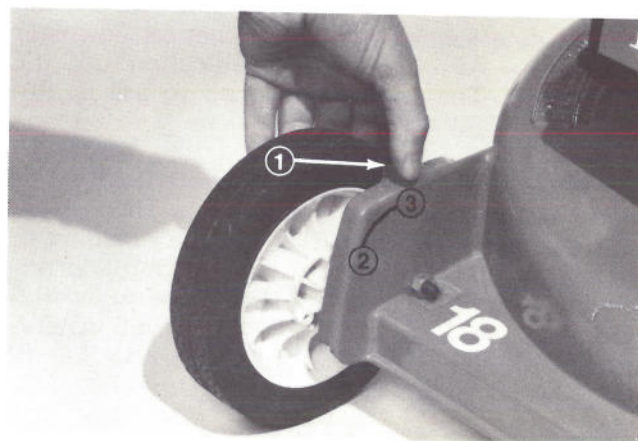
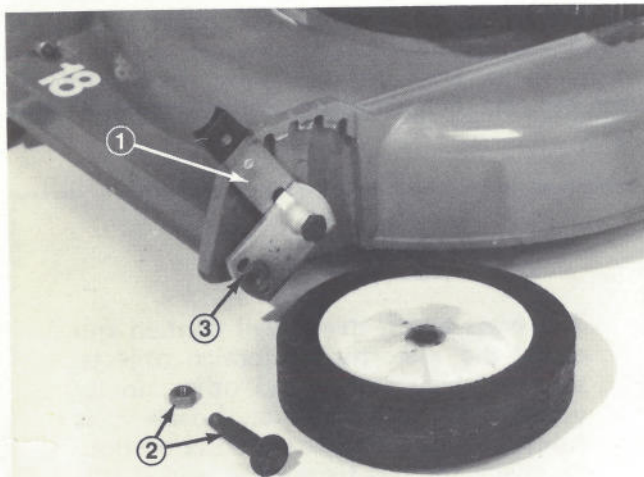

Figure 12
Figure 13
Height-of-Cut Adjusters (Fig. 12) — Height-of-Cut is adjustable to one of five approximate settings: 1 in. (25.4mm), 1-1/2 ins. (38.10mm) 2 in (50.8mm) 2-1/2 in. (63.5mm), or 3 in. (76.2mm). In addition, height can be set from approximately 1/2 in. (12.70mm) to 2-1/2 in (63.5mm) by re-locating wheel mount bolts in different holes in height-of-cut brackets (Fig. 13).
2. Place thumb against height-of-cut adjuster and fingers on outside of wheel (Fig. 12).
1. Position height-of-cut adjuster in "E" height-of-cut setting, slide an open end wrench over locknut at rear of wheel mounting bracket, use a box end or socket wrench over wheel bolt and remove wheel bolt and wheel from bracket (Fig. 13).
2. Install wheel and wheel bolt into top hole in bracket and secure with locknut (Fig. 13).